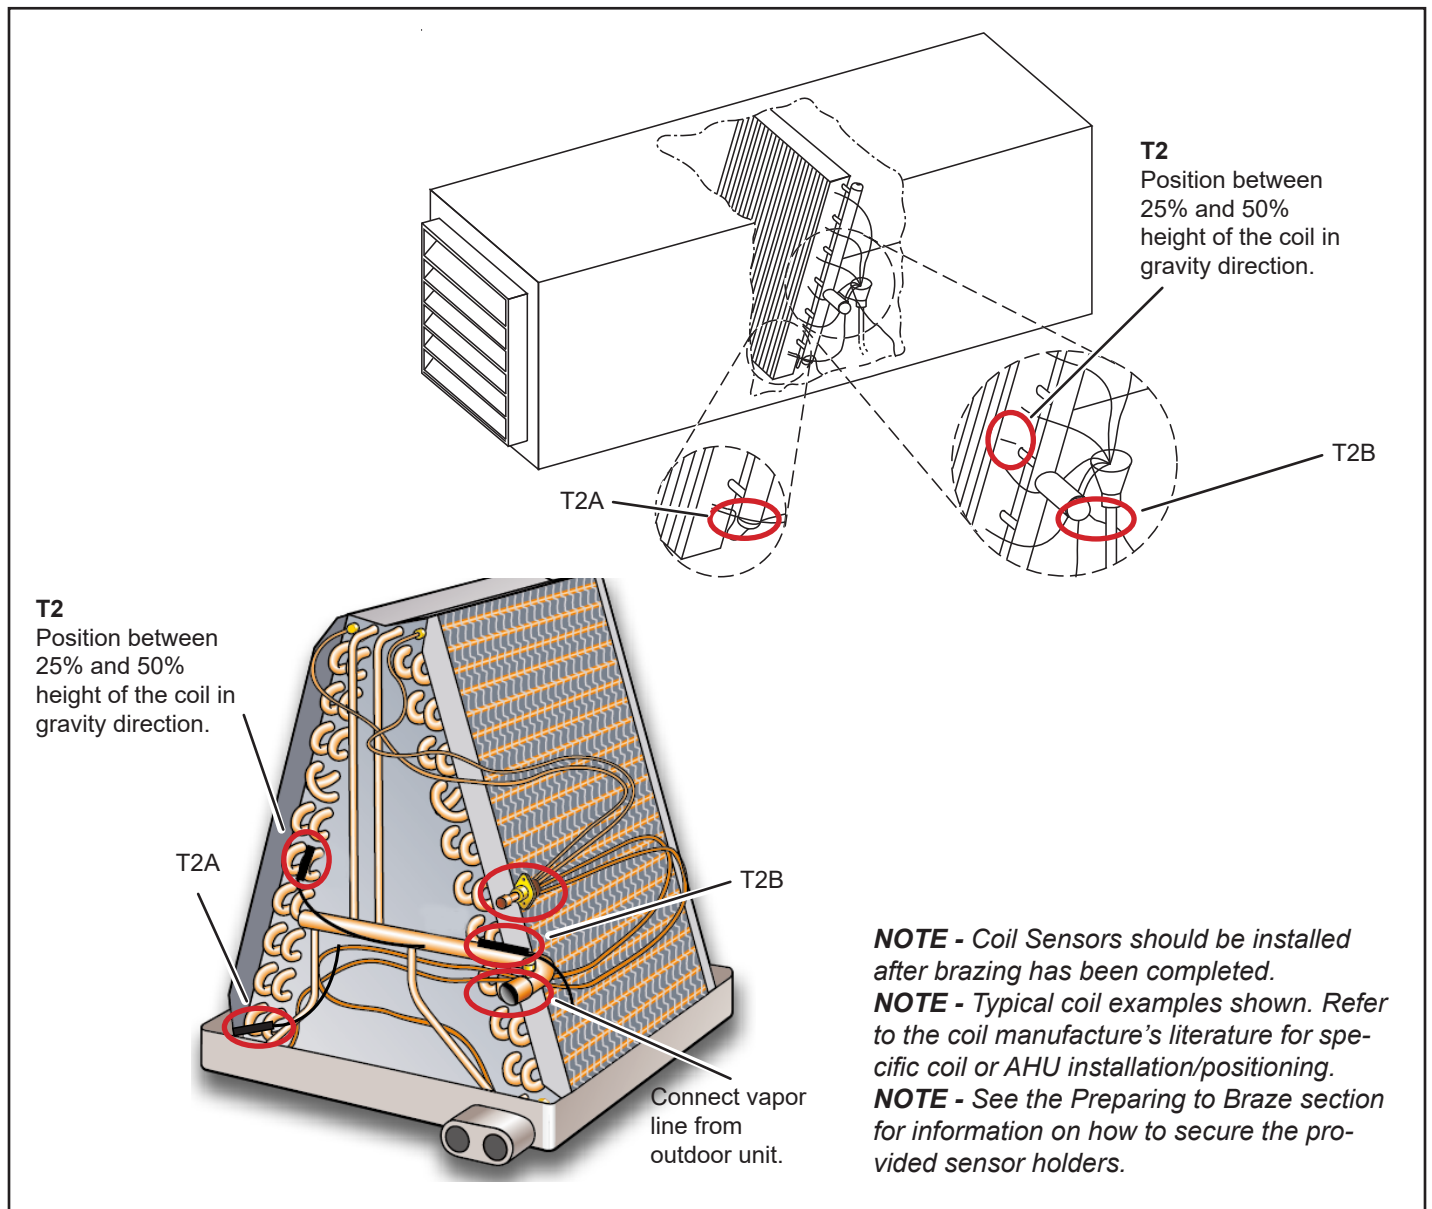

Figure 18. Indoor Unit Coil Component Identification
2. Secure the T2 sensor to the air handler unit's coil at the middle of the coil. See Figure 18.
3. Secure the T2A sensor to the air handler unit's coil at the coldest part of the coil. See Figure 18.
5. Secure the T2B sensor to the air handler unit's coil at the outlet of the coil as close as possible to the coil. See Figure 18.
7. Secure the T1 sensor at the air handler unit return air inlet or inside of the zone being served by the air handler. See Figure 18.